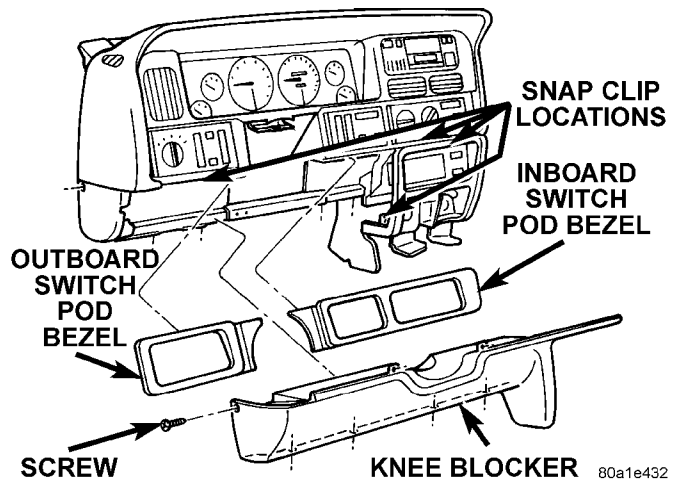

Fig. 4 Steering Column Opening Cover/Knee Blocker Remove/Install
(1) Disconnect and isolate the battery negative cable.
(2) Remove both switch pod bezels. See Switch Pod Bezel in this group for the procedures.
(3) Remove the one screw on each side of the steering column that secures the upper edge of the steering column opening cover/knee blocker to the instrument panel (Fig. 4).
(4) Remove the one screw that secures the steering column opening cover/knee blocker to the outboard end of instrument panel.
(5) Remove the four screws that secure the lower edge of the steering column opening cover/knee blocker to the lower instrument panel reinforcement.
(6) Using a trim stick or another suitable wide flat-bladed tool, gently pry the edges of the steering column opening cover/knee blocker away from the instrument panel at the snap clip retainer locations (Fig. 4).